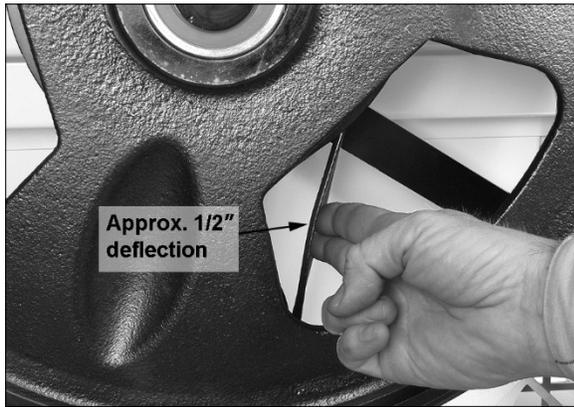

Figure 38: belt deflection
5. Loosen motor lock handle and allow motor to lower. The weight of the motor itself should produce proper tension for the belt. Check tension by pushing with moderate pressure against center of belt (Figure 38). An adequately tensioned belt will deflect about 1/2". If tension isn't strong enough, push down on the motor.
8. The weight of the motor itself should generally produce the proper tension for the belt. Check tension by pushing with moderate pressure against center of belt (Figure 38). An adequately tensioned belt will deflect about 1/2". If tension isn't strong enough, push down on the motor.